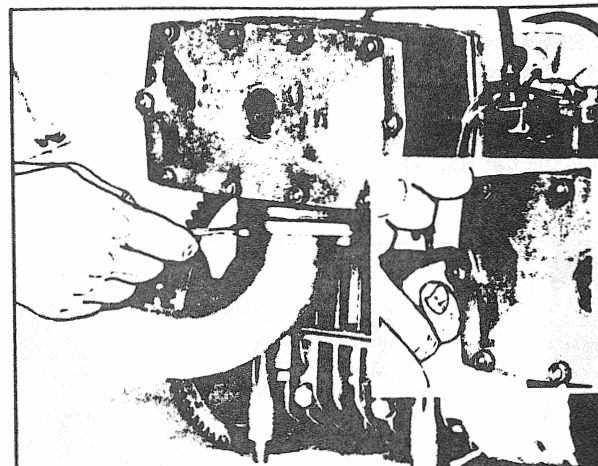

FIGURE 7
- Unscrew the two (2) nuts at exhaust pipe/chamber flange (fig. 7).